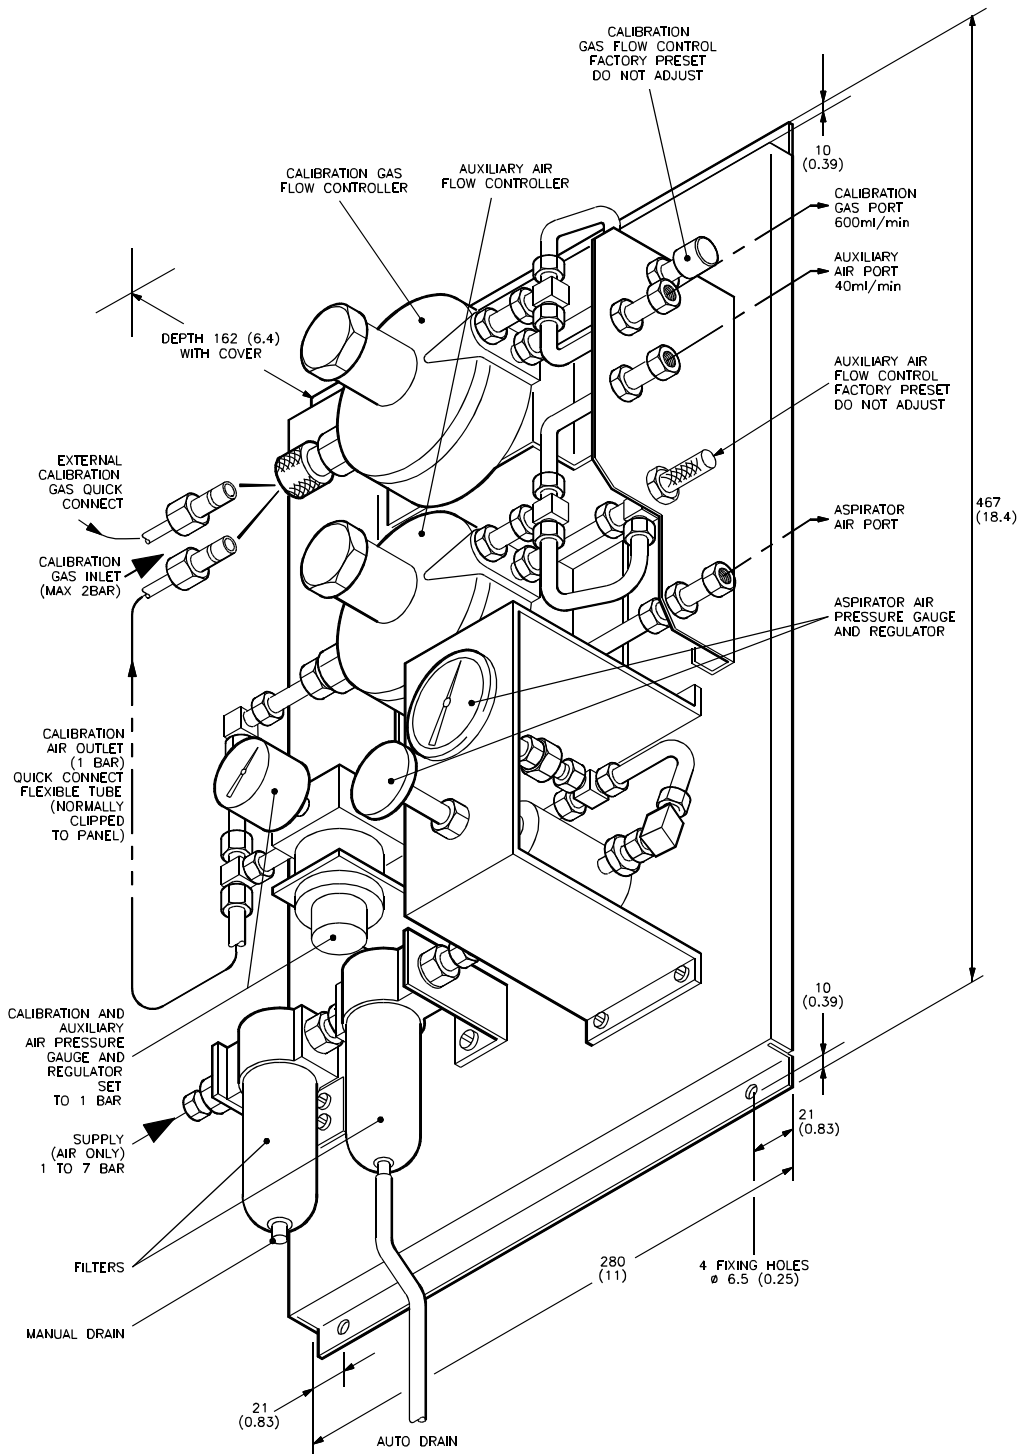

Figure 3.21 Air Regulator Set (oxygen and combustibles analyser with auxiliary air).
3.8.3 Air Regulator Set (oxygen and combustibles analysers with auxiliary air). See Figure 3.21
See Figure 3.21 for dimensions. Connection to the auxiliary air port on the sensor head is made with 1/8" tubing.